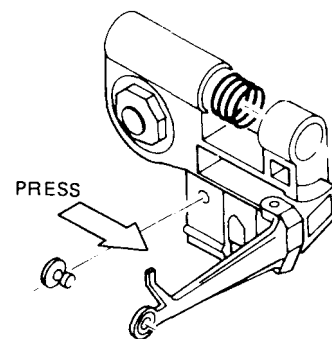

FIGURE 10
- c. To install load button, press the button into the arm. from the head side, and it will snap in place. Reference Figure 10.